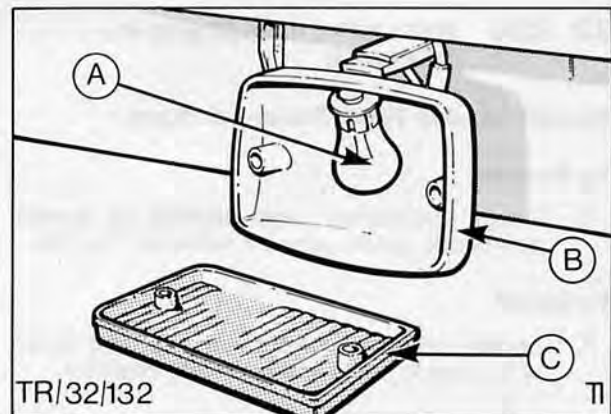

Fig. 31. A – Bulb
1. Remove two screws securing fog lamp lens to lamp, Fig. 31.